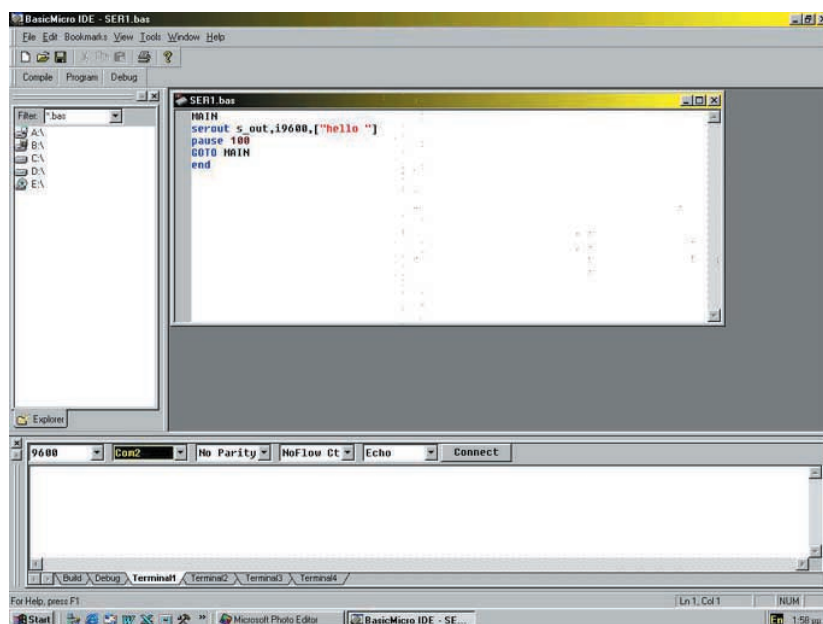

Fig.32. The ATOM software Integrated Development Environment screen.
2. Click the **Build** button at the bottom of the screen (see Fig.32).